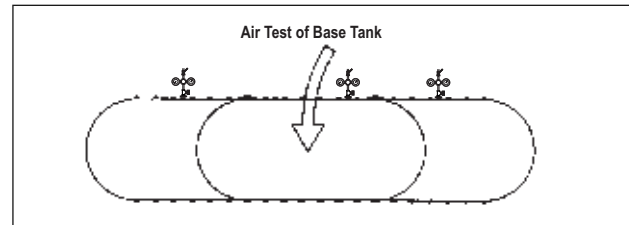

FIGURE 4-2
4.4.3. Pressurize the base tank. (See SECTION 3.4. and FIGURE 4-2.)
4.5.3. Pressurize the base tank. (See SECTION 3.4. and FIGURE 4-2.)